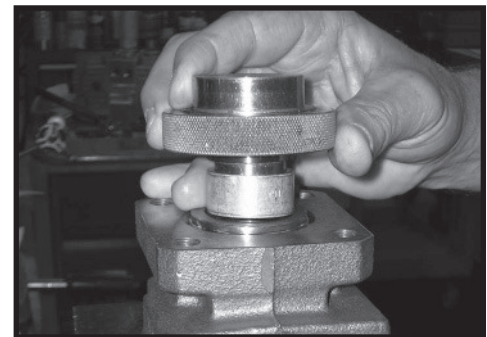

Figure 33
Small Frame Series TC, TS, TB and TE Torqmotor™ housings require the use of bearing mandrel shown in figure 1 to press bearing/ bushing (19) into the housing to a required depth of .151/.161 inches (3.84/4.09 mm) from the end of the bearing counterbore. SEE FIGURE 33. (TC reference page 10).